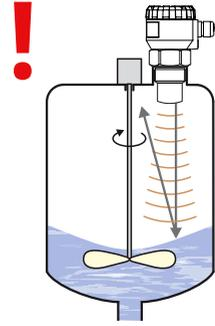

Fig. 10: Intensely stirred surface
- Rotating mixer blades can cause that the surface is stirred, which results in false reflections of the radio signal from the level and unreliable operation of the level meter (Fig. 10). For a rippled or swirling level, you can use the directional horn to eliminate scattering of the radio signal.